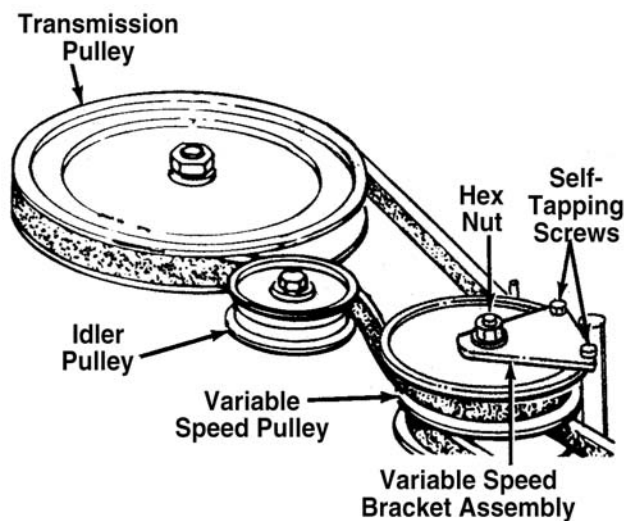

Figure 4-41. Front Drive Belt Removal
3. Remove the belt keeper pins from the engine pulley belt guard. See Figure 4-41.